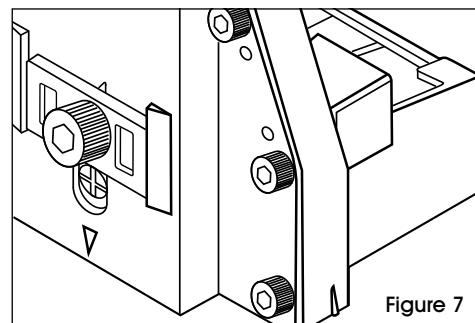

Figure 7
**Stapling** – Grasp handle with one hand. Position on box in line with the desired staple location. There is a small projection on either side of the frame as an aid in locating the position of the staple. Press trigger. Strongest closure requires end staples close to end of box. Check packaging requirements. Test staple clinching in a sample of the board being used. Adjust clinch for depth of penetration and tightness. (See Figure 7)